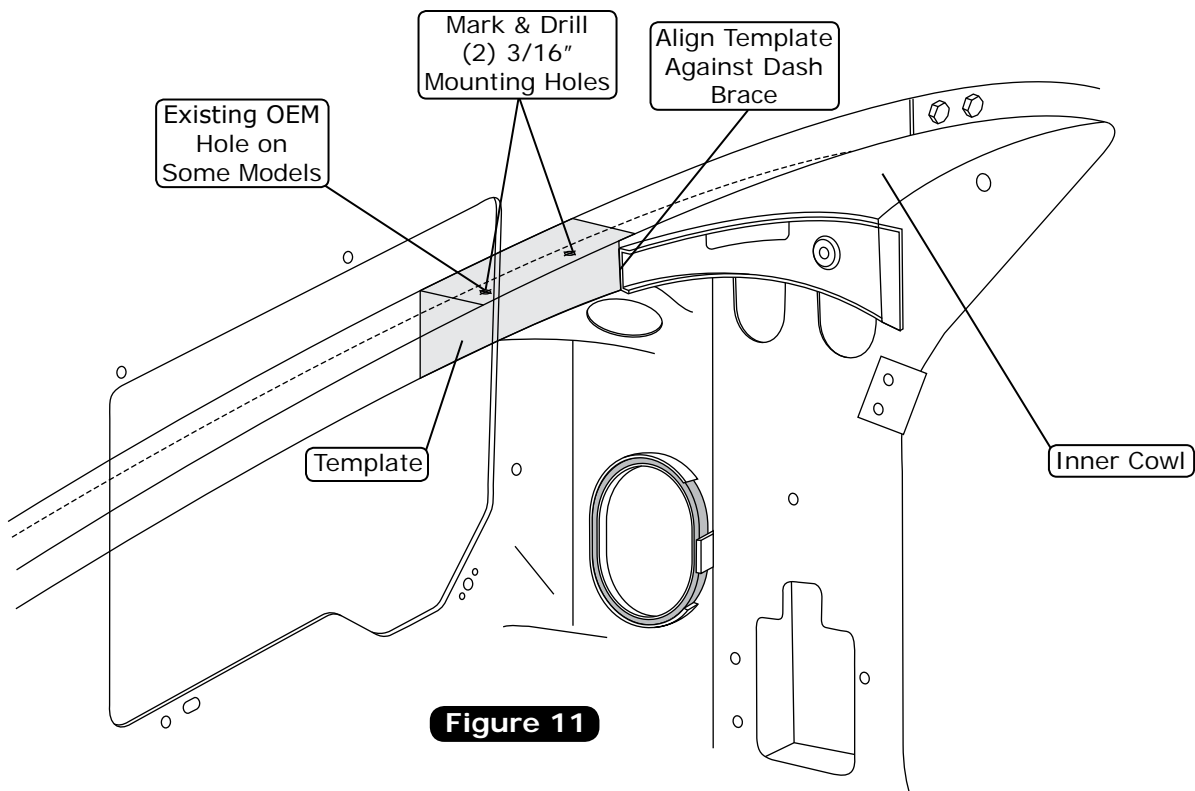

Figure 11
1. Cut out the template provided on Page 29. Place the template under the dash on the inner cowl as shown in Figure 11, below.
2. Once the template is aligned correctly against the dash brace, tape the template into place. Mark the mounting hole locations on the inner cowl. Once the holes are marked in the correct location, drill (2) 3/16" holes in the inner cowl for the front evaporator mounting bracket (See Figure 11, below). **NOTE: Some models may have an OEM hole in the inner cowl as shown in Figure 11, below.**